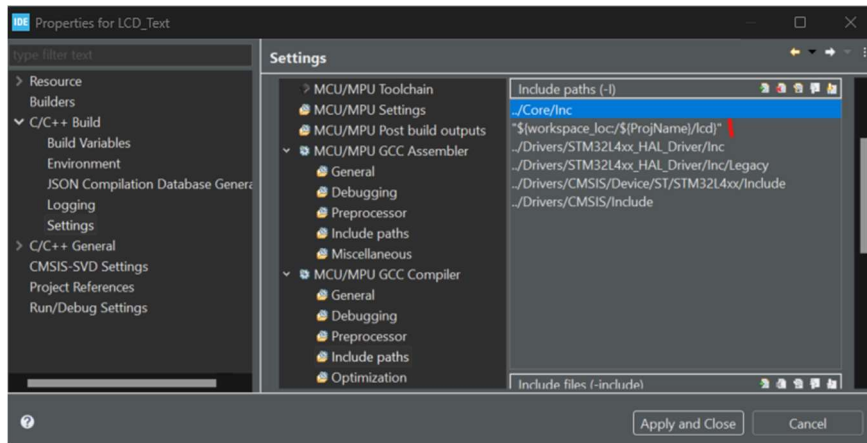

Figure 44: Path to the lib file lcd.c
- The library is set up in a separate folder of the project and named 'lcd'. This folder contains the actual files 'lcd.c' and 'lcd.h'. Set the include path to the files and properties of the project. This can be entered in the 'Settings' tab under the menu item 'C/C++ Build'. This is shown in Figure 44 for the file 'lcd.c'.